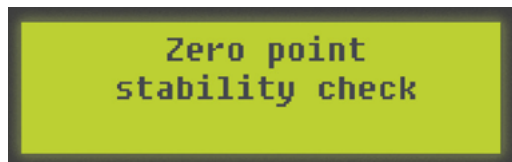

Fig.25
4. LCD display will read, Zero point stability check (Fig.25).